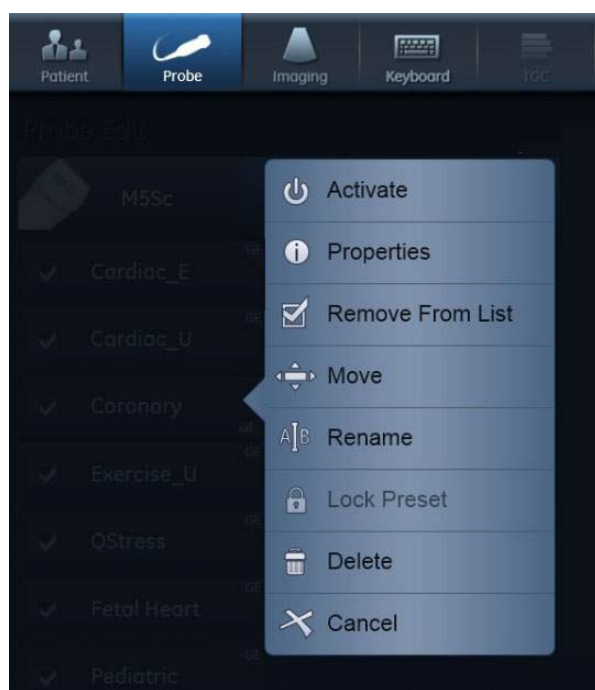

Figure 12-93. The Preset config menu
3. Press an application preset to adjust. The *Preset config* menu is displayed (Figure 12-93).
A preset configuration menu appears (Figure 12-93).
The *Preset config* menu is displayed (see Figure 12-93 on *page 12-114*).